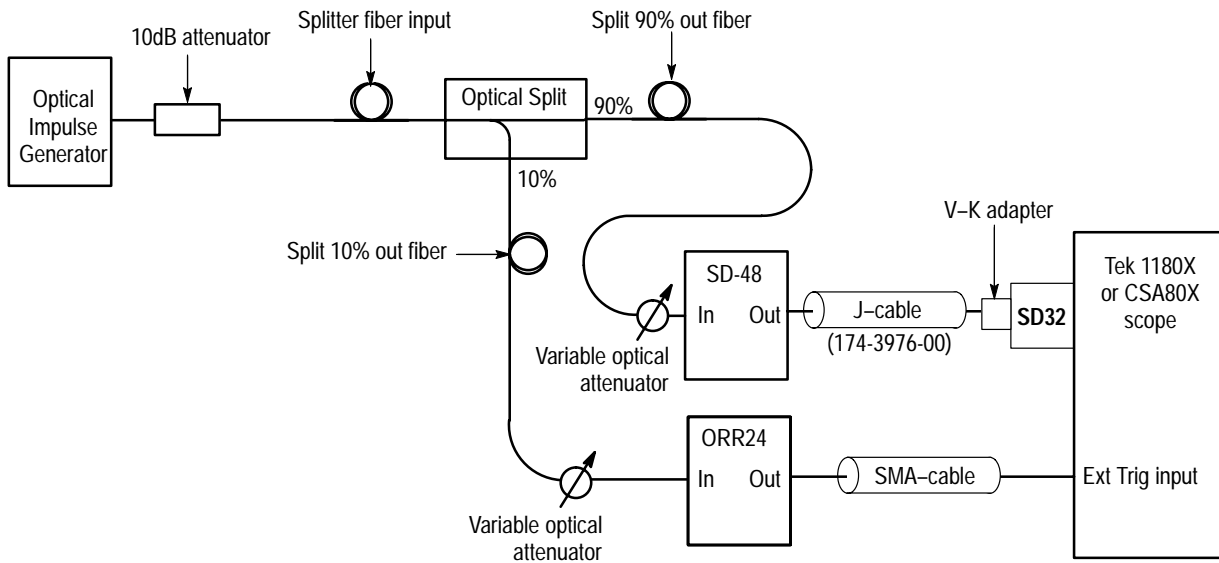

Figure 8: Setup for frequency response measurement, SD-48 standard configuration
1. Connect the output of the optical impulse generator to the 10 dB inline attenuator, 90/10 splitter, and optical attenuators as shown in Figures 8 and 9. Start with about 30 dB of attenuation on both variable attenuators.
- a. For an SD-48 with the standard configuration, finish connecting the setup as shown in Figure 8. Note that this requires an SD-32 sampling head.